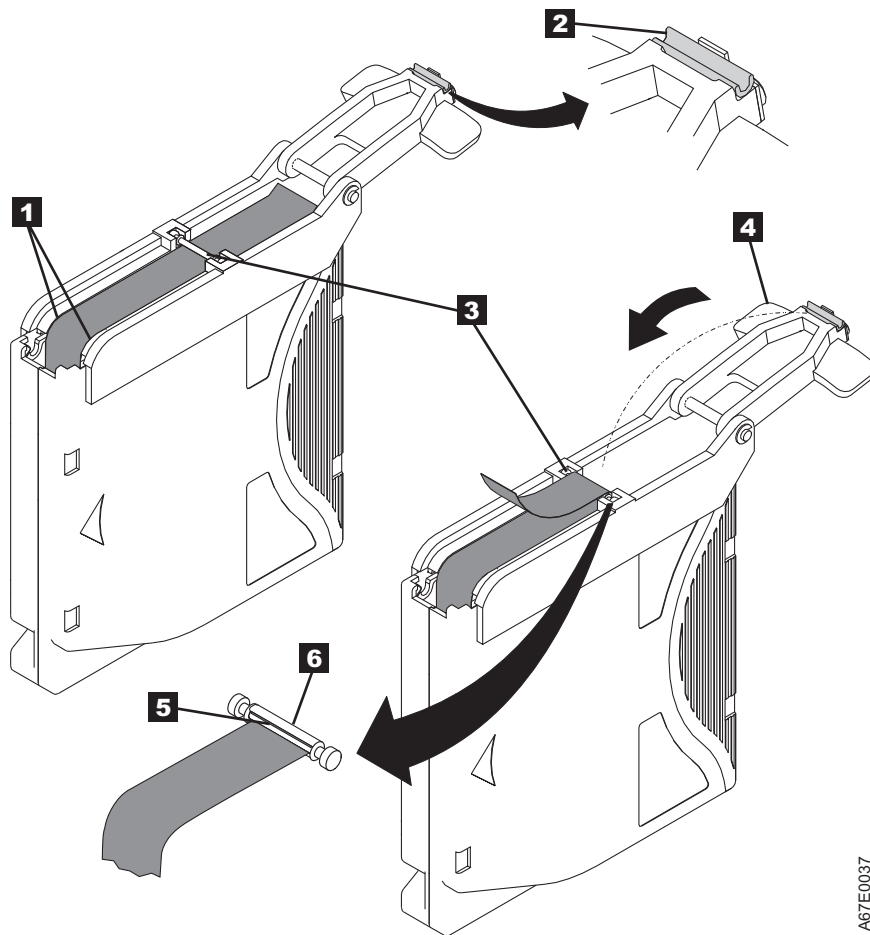

Figure 25. Attaching the leader pin to the tape
- Position the tape in the alignment groove of the leader pin attach tool (see **1** in Figure 25 on page 52).
- Place a new C-clip into the retention groove **2** (Figure 25 on page 52) on the leader pin attachment tool and make sure that the clip's open side faces up.
- Place the leader pin (from step 6) into the cavity **3** (Figure 25 on page 52) of the leader pin attach tool.
- Fold the tape over the leader pin and hold it with your fingers (see Figure 25 on page 52).